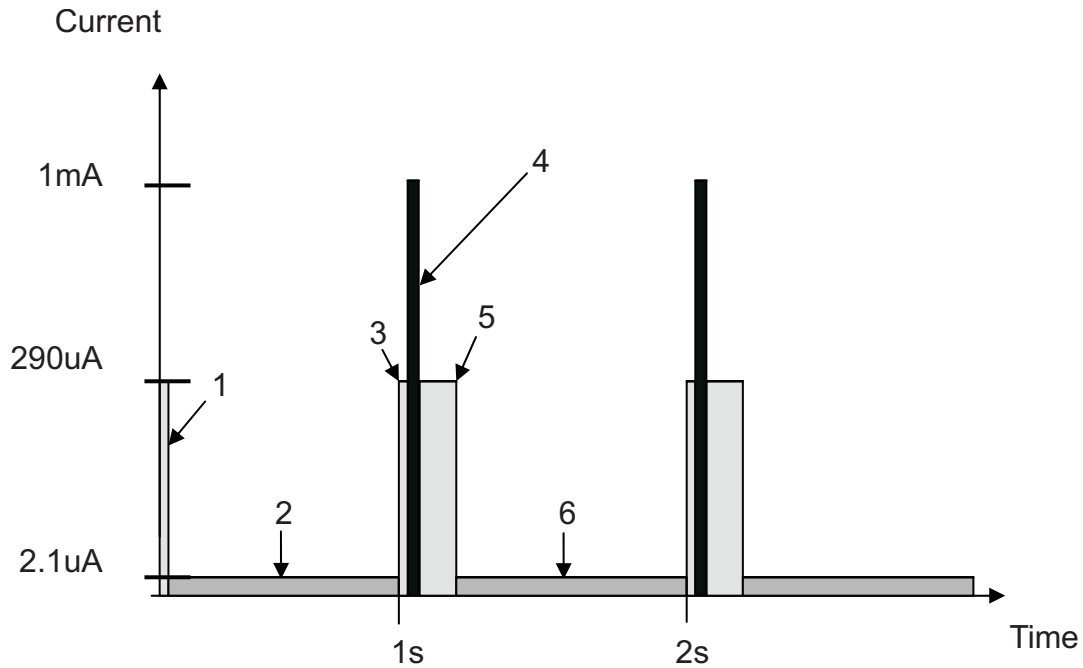

Figure 6. Current Drawn as a Function of Time
A diagram portraying the power draw of the thermocouple implementation is shown in Figure 6. At reset, all registers are initialized for proper operation (1). During initialization, the MCU is in active mode and draws a current of approximately 290 μA . After all modules are initialized, the MSP430 enters LPM3 (2). While in LPM3, the current draw is approximately 2.1 μA .